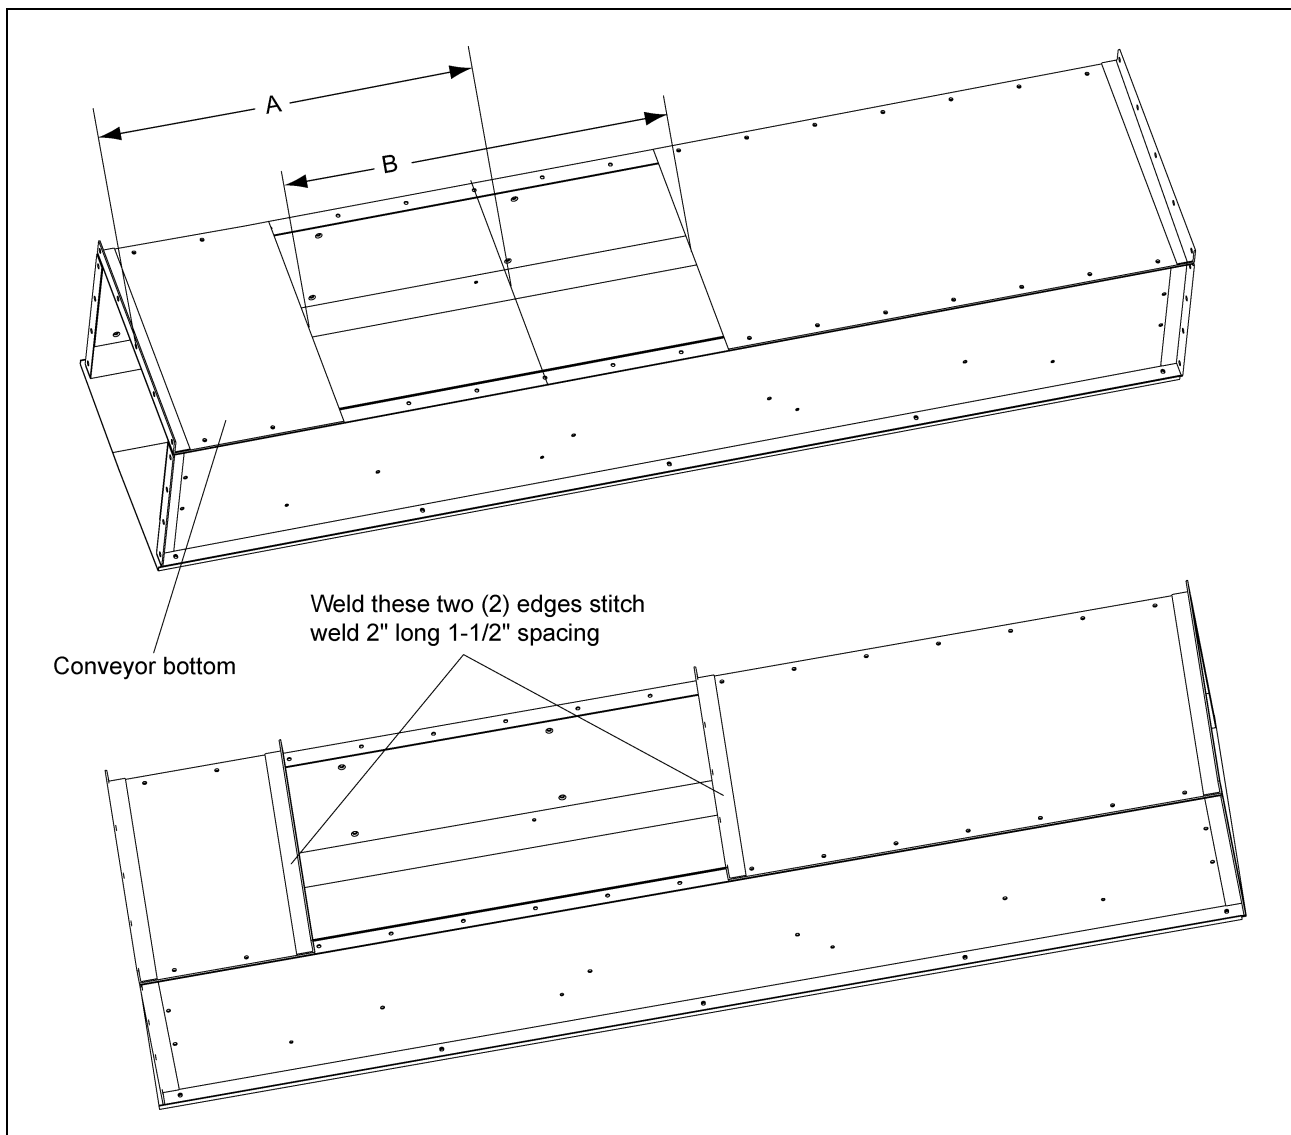

Figure 3B
1. Start by locating the center of the proposed discharge location. Dimension "A" shown *in Figure 3B*.
2. When locating gate try to position so that at least three (3) holes on the conveyor bottom line up with mounting slots on the gate.
6. Weld the extra angle iron flanges provided with the gate to each trough bottom cut, as shown *in Figure 3B*, so that the gate can be bolted to each side.